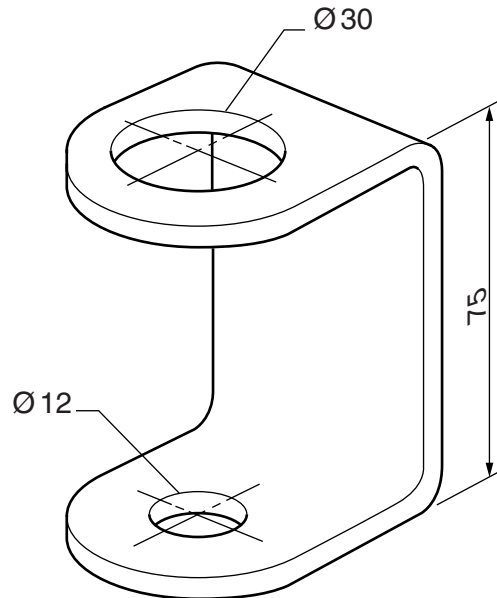

Fig. 1
1 Fig. 1 shows a soap dispenser bracket.
- (a) State a suitable material for a soap dispenser bracket of the type shown in Fig. 1 and give **two** reasons for your choice. [3]